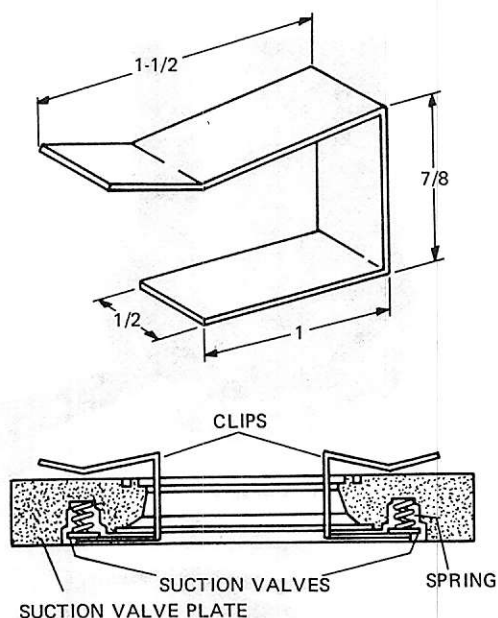

FIG. 25 — SUCTION VALVE RETAINING CLIPS
5. Place the suction valve on the springs. Install as originally removed, mating the seats; do not turn over. Two clips as shown in Fig. 25 should be made and slipped over the suction valve and cage. Be sure valve operates freely.